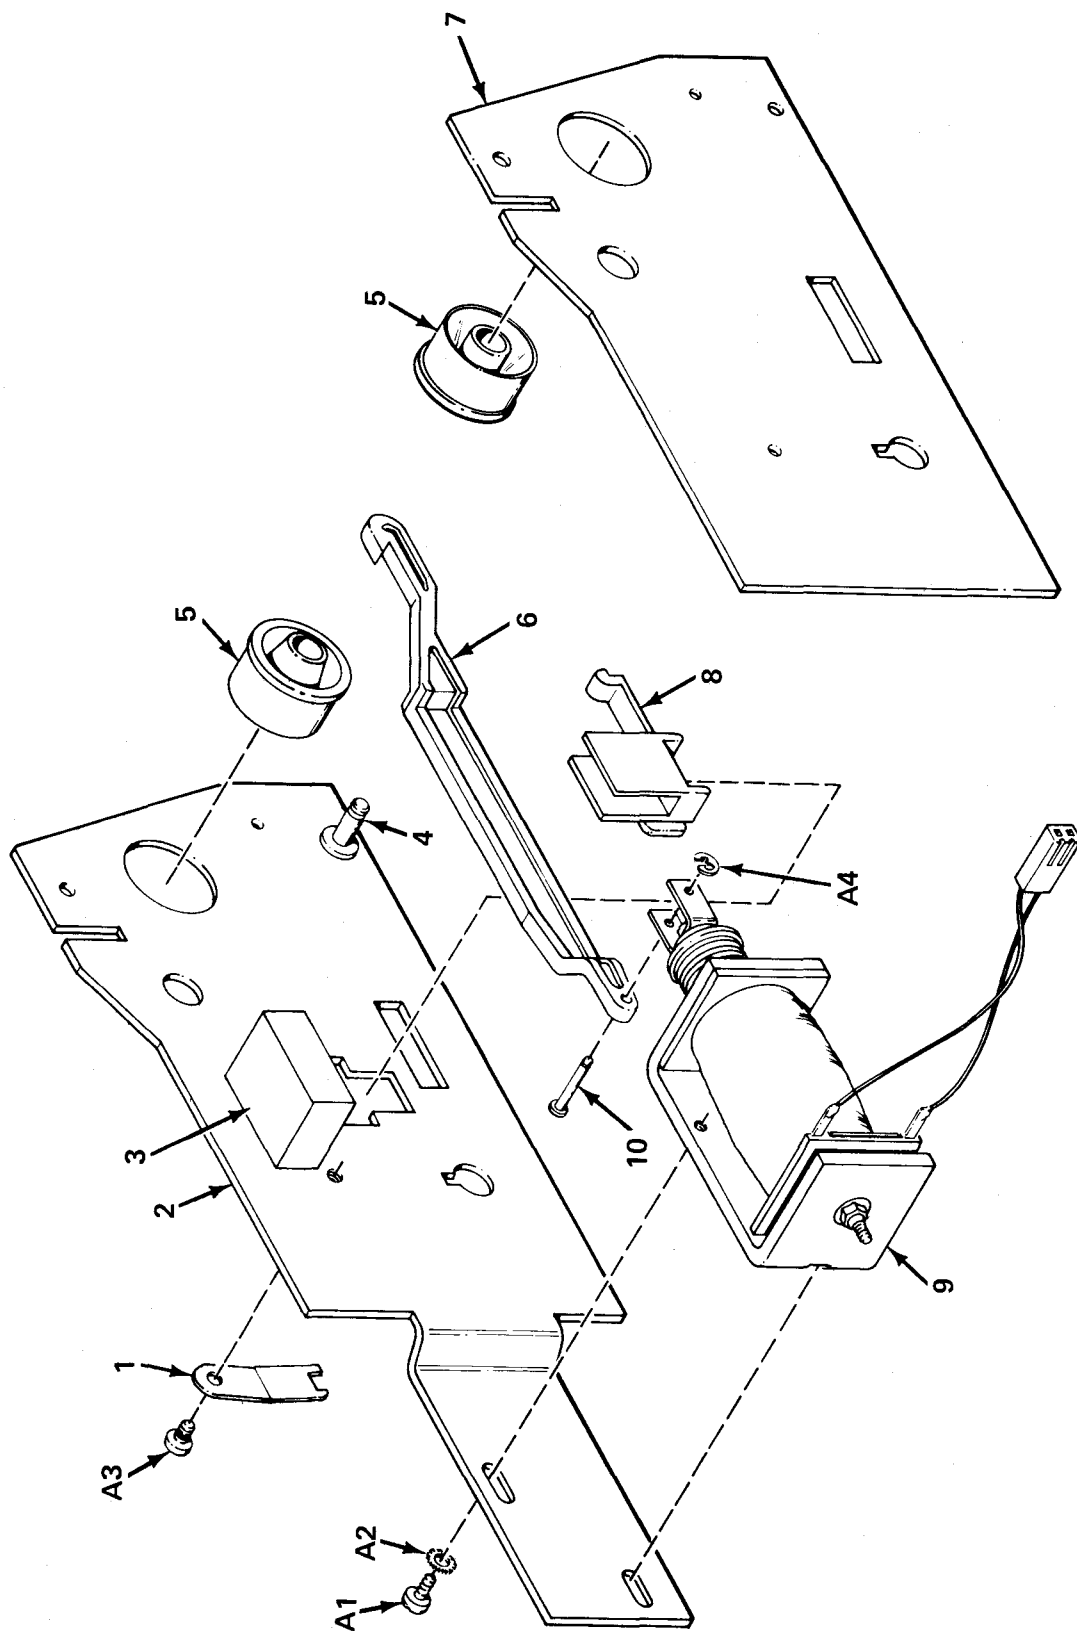

Figure 8-5. LEFT/RIGHT SIDE PLATE ASSEMBLIES
(Figure 8-5)
NOTE: The hinge pin assembly is made up of items 4.1 and 4.2 which are not called out in Figure 8-5.
NOTE: The solenoid assembly is made up of items 9.1 through 9.6 which are not called out in Figure 8-5.